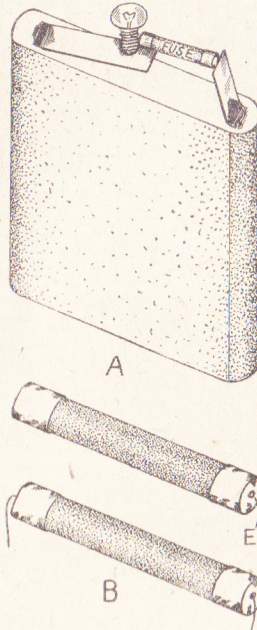

Fig. 2—Method of testing
A simple test to employ for finding the faulty fuse is indicated by view (A) Fig. 2. Use an ordinary flat type torch battery as indicated, hold the bulb with its end tip in contact with the long strip connection, and try the fuse with one end in contact with the other battery contact, and the other end touching the threaded side of the bulb, as clearly shown. If the cartridge fuse is in good condition the bulb will light up, provided, of course, the battery and bulb are sound. If, however, the fuse is faulty, the bulb will fail to light up.
Now take the faulty cartridge and make a small hole about $\frac{1}{32}$ in. in each end, as indicated at (E) view (B) Fig. 2. The ends of the cartridge are quite soft, and the holes can easily be made with the point of a small awl or small drill held in a pin vice. Obtain some 5 amp. tinned copper fuse wire and thread a piece through the holes made in the cartridge, as indicated in view (B) Fig. 2.